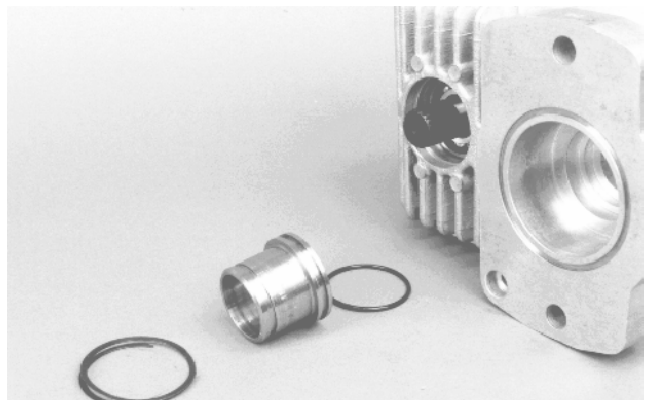

Figure 53
14. Remove spiral retaining ring and remove PTO seal guide (with O-ring) from the housing (Fig. 53).